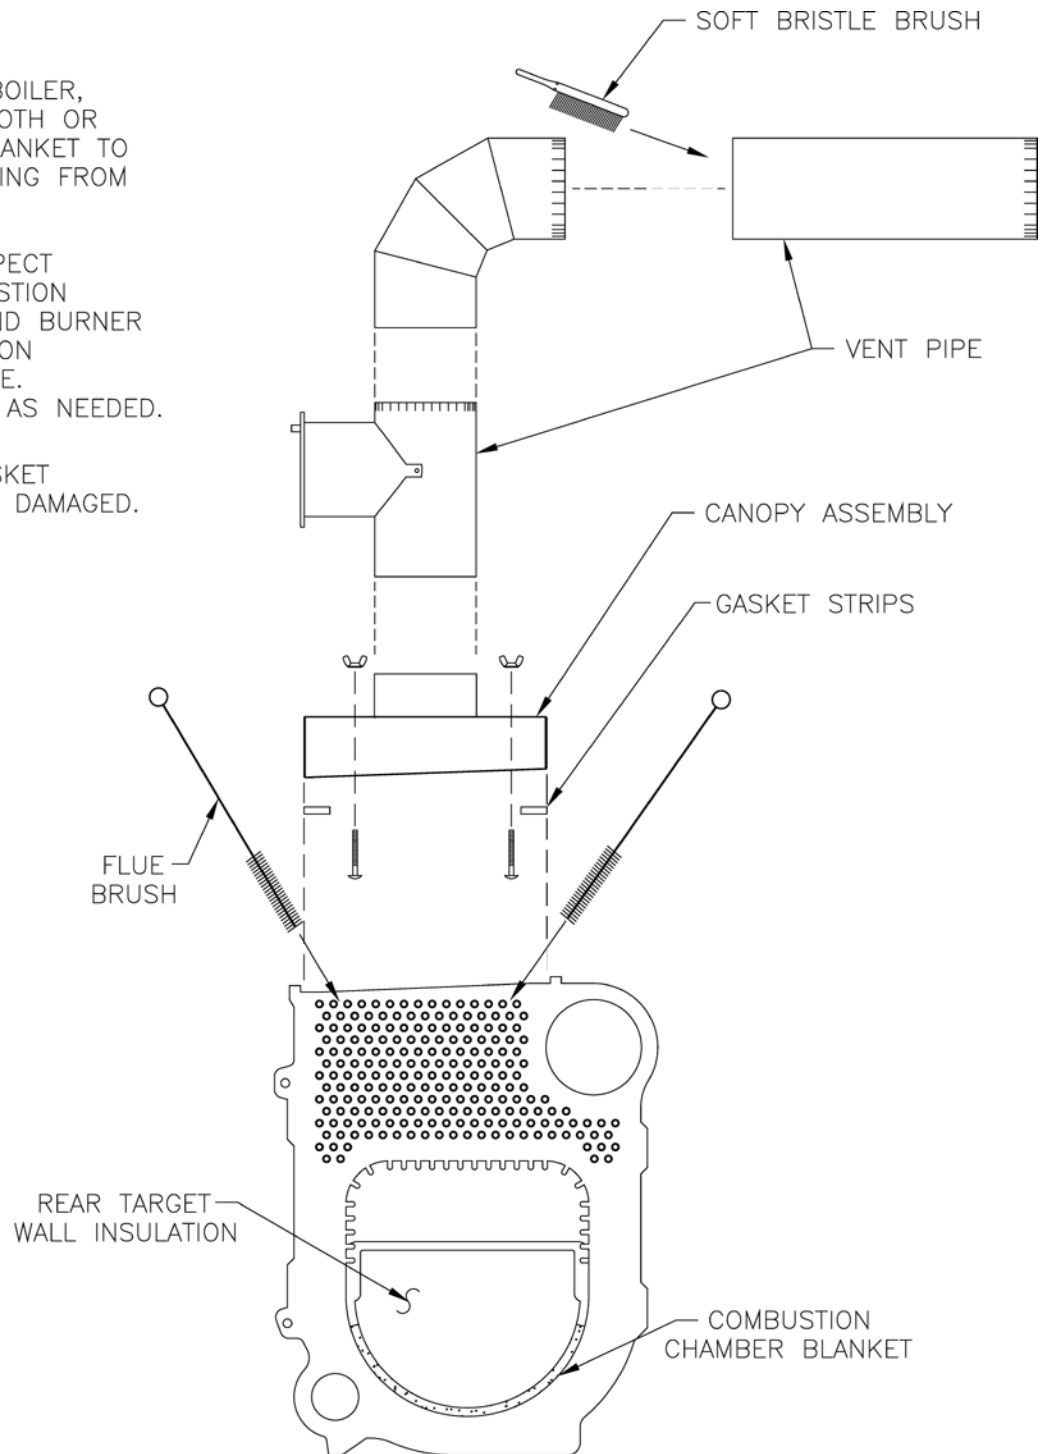

Figure 32: Cleaning of Boiler Flueways
- A. CLEAN THE FLUEWAYS (See Figure 32).